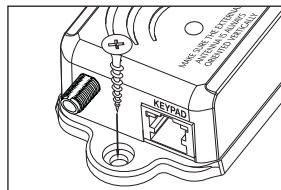

Figure 10. Wall mount placement. Use Sheetrock Screws
4) **MOUNT THE RFG (see Figure 10).**